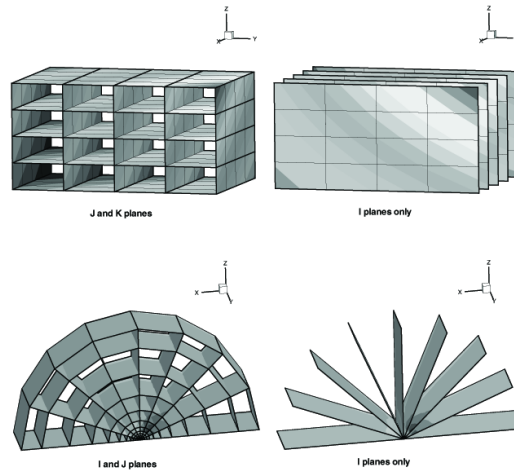

Figure 7-5. Examples of plotting I, J, and K-planes.
- **Planes Settings (I, J, K, IJ, JK, IK, and IJK-planes)** - Plots the appropriate combination of I, J, and/or K-planes. The planes are determined by the Range for each plane, which can be set by right-clicking in a range column. **These settings are available only for IJK-ordered data.** Figure 7-5 shows a number of examples of plotting I, J, and K-planes.